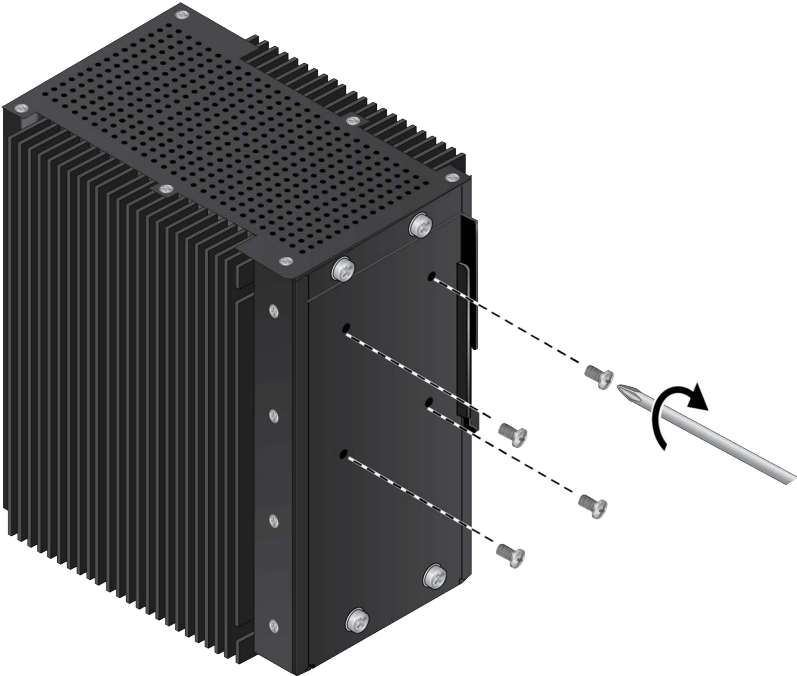

Figure 25. Reinstalling the DIN Rail Bracket Screws
- 3. Reinstall the bracket screws. Tighten the screws to 18 in-lbs. Refer to Figure 25.
3. Reinstall the bracket screws. Refer to Figure 25 on page 81.